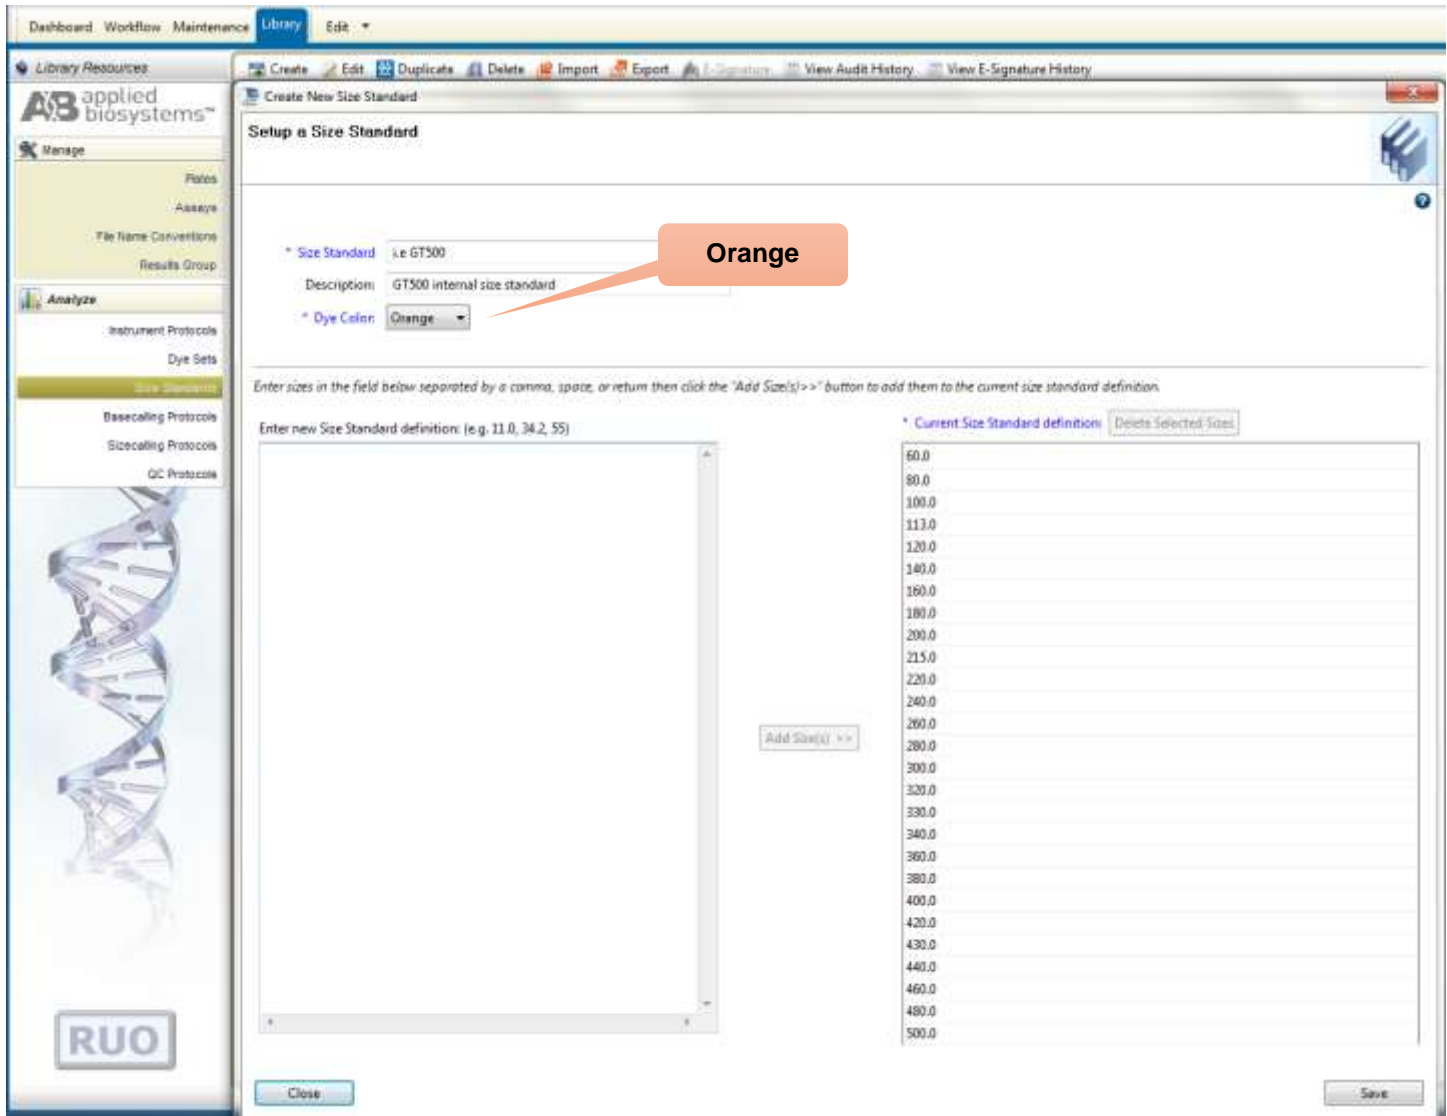

Figure 6. Screenshot for the “Create New Size Standard” window on Applied Biosystems® 3500 Data Collection software
- c) select “Create” (Figure 6)
Users can select settings as shown in the Figure 6 or alternatively may define these settings based on internal validation condition for GT HapScreen® PAH on the Applied Biosystems® 3500/3500xL Genetic Analyzer.